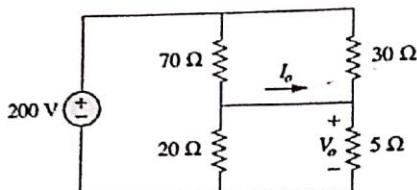

Figure 1
1. a. Calculate V_o and I_o in the circuit shown in figure 1.